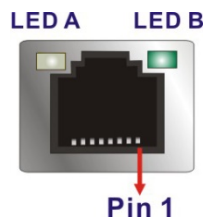

Figure 3-30: LAN Connector
- CN Pinouts:** See **Figure 3-30** and **Table 3-27**